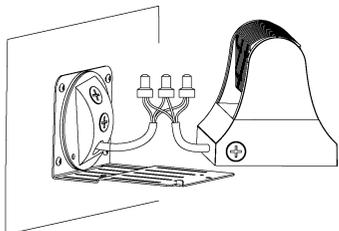

Figure 3-5
5. Make wiring connection and ensure connections are insulated. (Figure 3-5)